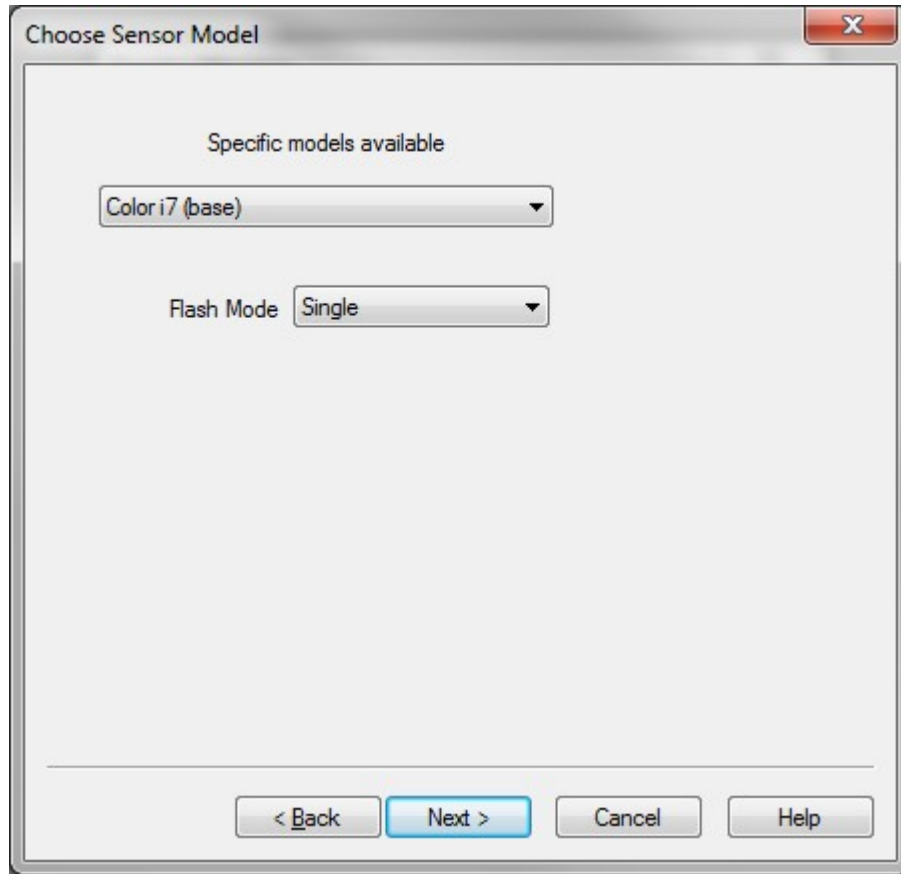

Figure 3 —Choose Sensor Model
6. Depending on the type of sensor you are installing, the Choose Sensor Model dialog box may appear (See Figure 3). If it does, select your instrument’s model type from the drop-down list and click <Next>.